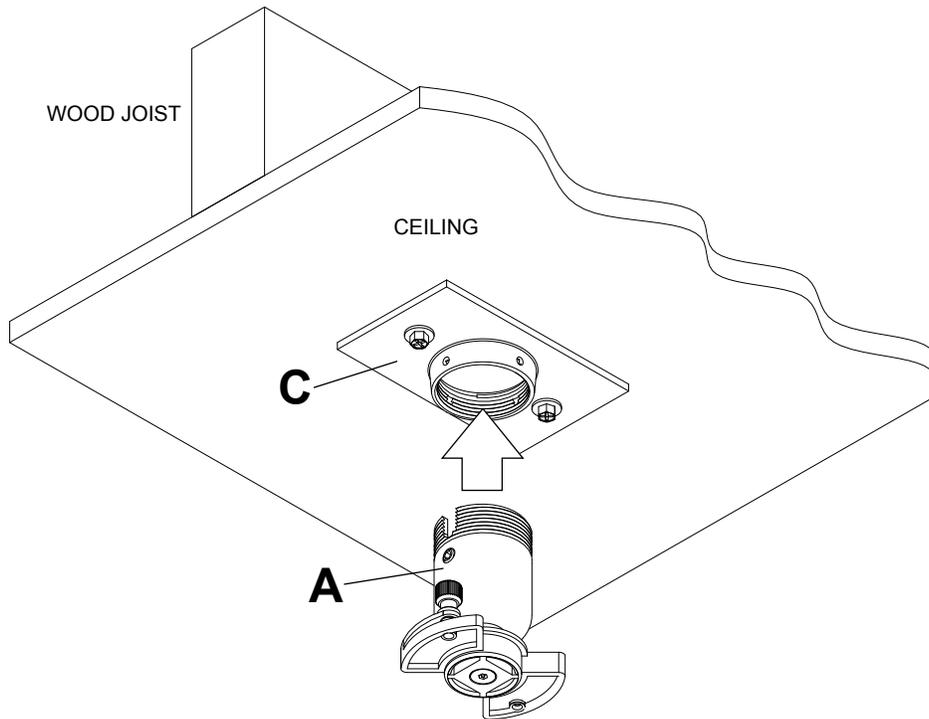
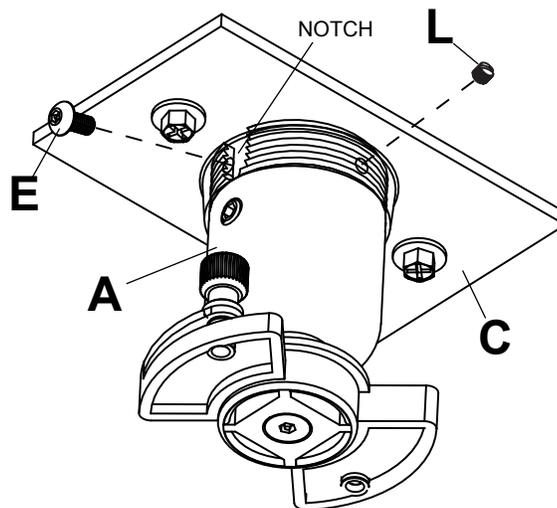

figure 3.1
figure 3.2
- 3** Screw ball and socket mount (A) into ceiling plate (C) as shown in **figure 3.1** (minimum 5 turns). Align the notch with one of the four holes of the ceiling plate (C) and secure ball and socket mount (A) with a M5 x 10 mm socket pin screw (E) using security allen wrench (U) as shown in **figure 3.2**
**NOTE:** Slotted set screw (L) is used to jam against the threads of the ball and socket mount to prevent any excess movement of the ball and socket mount (A). Do not overtighten screw; overtightening screw will damage threads making it difficult to separate the products.